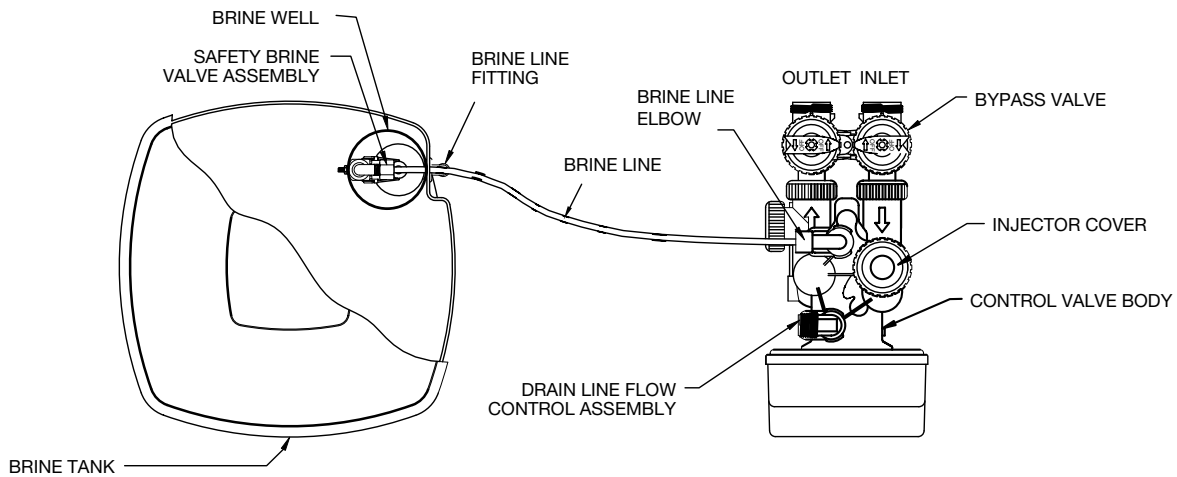

Figure 3. Softener and Brine Tank Assembly, Top View
- Step 10) Install the overflow line to the brine tank overflow fitting (Figure 3). The overflow discharge must be lower than the overflow fitting. **DO NOT** connect overflow line with valve drain line.